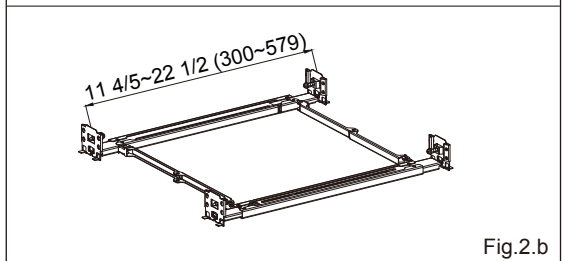

Fig.2.b
1. Bend down 8 tabs for positioning as (Fig.2.a) and unfold the bracket assembly as (Fig.2.b).